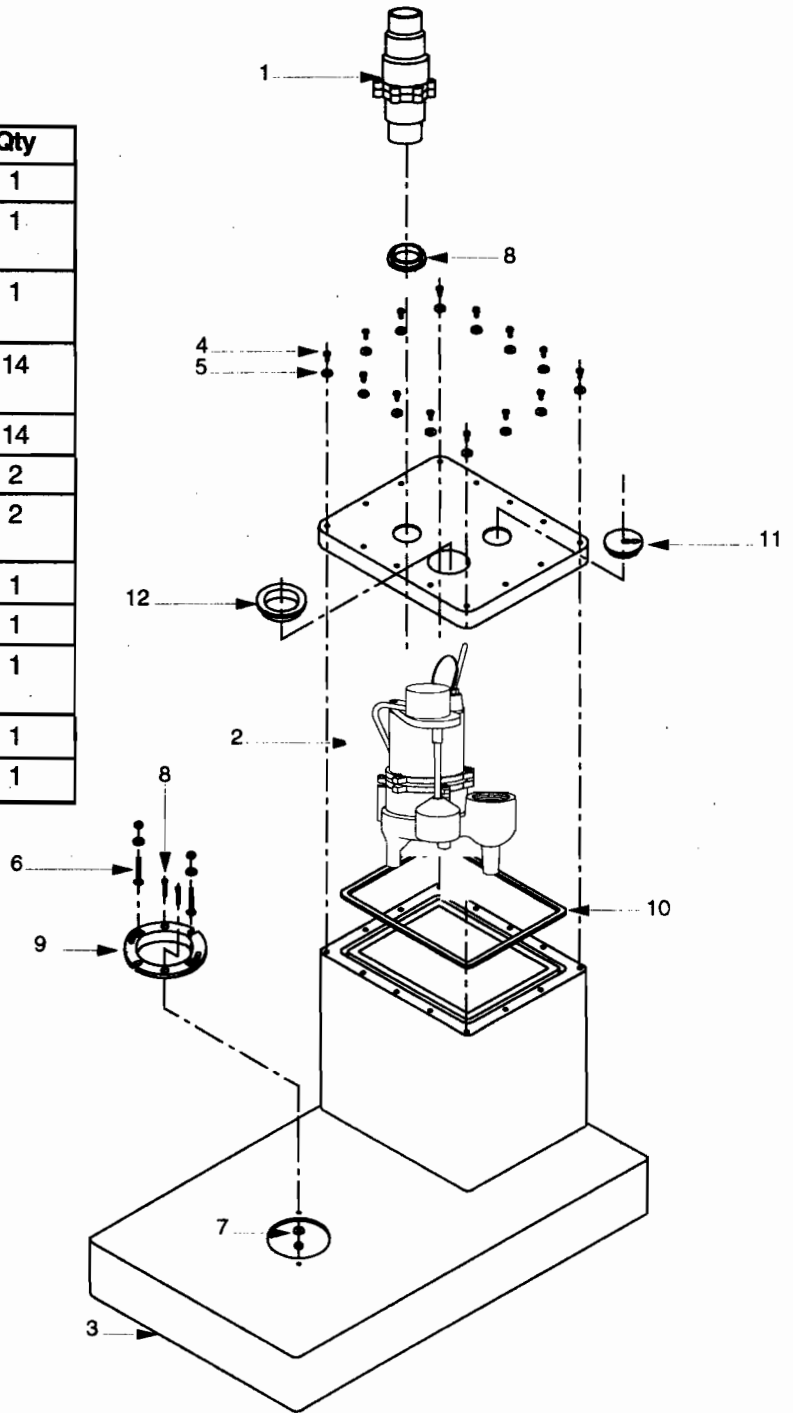

Fig. 3
4. Install the cast iron closet flange (Fig. 3, Item 9). Drill the two pre-centered holes per Fig. 3. Use a 9/32" diameter drill bit. Insert flange through the pump chamber. Use 2 pan head bolts (1/4 - 20 - 2" long) and 2 bolts (1/4 - 20 - 1" long) with washers and nuts provided. Seal bolt heads inside the tank with foam gasket material. (Fig. 3 Item 10) Apply 1" or 2" strip at all bolts locations. The 2" long pan head bolts are used to fasten toilet to the tank, or sub floor. (Note: A standard floor flange is not required.) The position of the toilet must be determined to allow the longer bolts to be inserted in the correct holes. Install the cast iron closet flange making sure to align closet bolt slots, for the longer bolts to allow installation of the toilet bowl in the desired direction. (i.e., If the vent and discharge pipe is to be installed behind the wall, the toilet bowl/flush tank will be parallel to the pump housing and piping).
6. Apply foam gasket (Fig. 3, Item 10) to flange of pump chamber. For best results, overlap ends or gasket approximately 1/2".
9. Place 2" NPT flange (Fig. 3, Item 12) in 3" hole in pump chamber lid, this is the vent. Place 2" straight flange (Fig. 3, Item 8) in 2-3/8" hole, this is the discharge.
11. Install the lid on the tank as follows. Push the 2" discharge pipe down until approximately 1-1/2" inches is protruding through the lid. Pull pump power cord up out of the tank and hang over edge of the pump housing. Screw threaded adapter into the pump discharge by rotating the lid assembly, until hand tight. Feed end of pump power cord and the cord seal through small hole in cover in the lid. (Fig. 3, Item 10) Push lid down into position on the pump well. Tighten pump 2" discharge pipe with a strap wrench. Do not press cord seal into lid at this time. (Ref. Step 21), Bolt lid in place with (14) 1/2"-20 bolts and washers provided. (Fig. 3, Items 4, 5)
13. The discharge pipe should protrude approximately 4" above the surface of the lid. Attach the check valve (Fig. 3; item 1) to the discharge pipe with the arrow on the check valve body, indicating flow, pointing away from the pump.